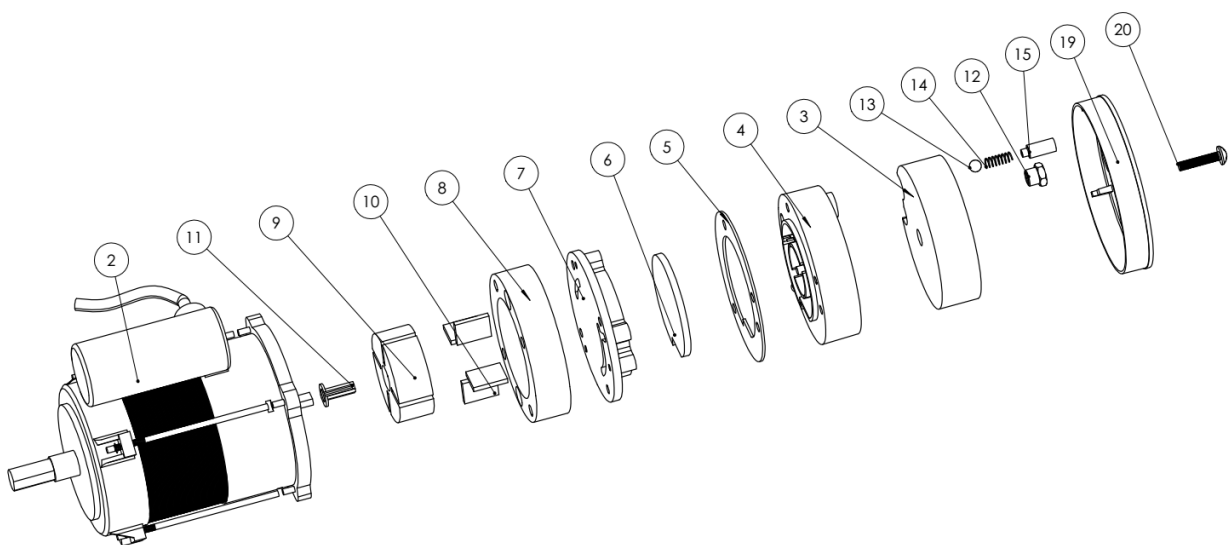

Fig.3
Clean air filters. Remove filter end cover (19), wash air intake filter (3) using a light detergent and dry it thoroughly before reinstalling. Replace air delivery filter (6) once a year (Fig.3)